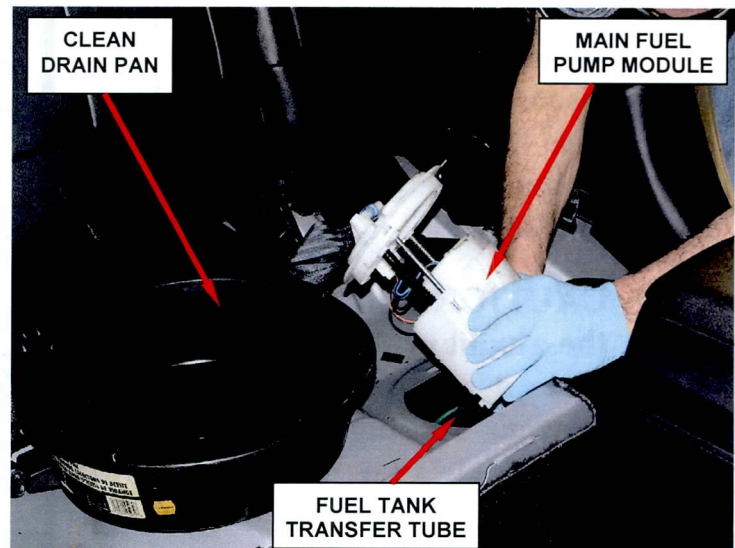

Figure 4 – Main Fuel Pump Module
- Carefully lift the pump out of the fuel tank and disconnect the fuel tank transfer tube. Then remove and save the main fuel pump module from the fuel tank (Figure 4).
16. Connect the main fuel pump module to the fuel tank transfer tube in the fuel tank and then lower the main pump module into the fuel tank (Figure 4).